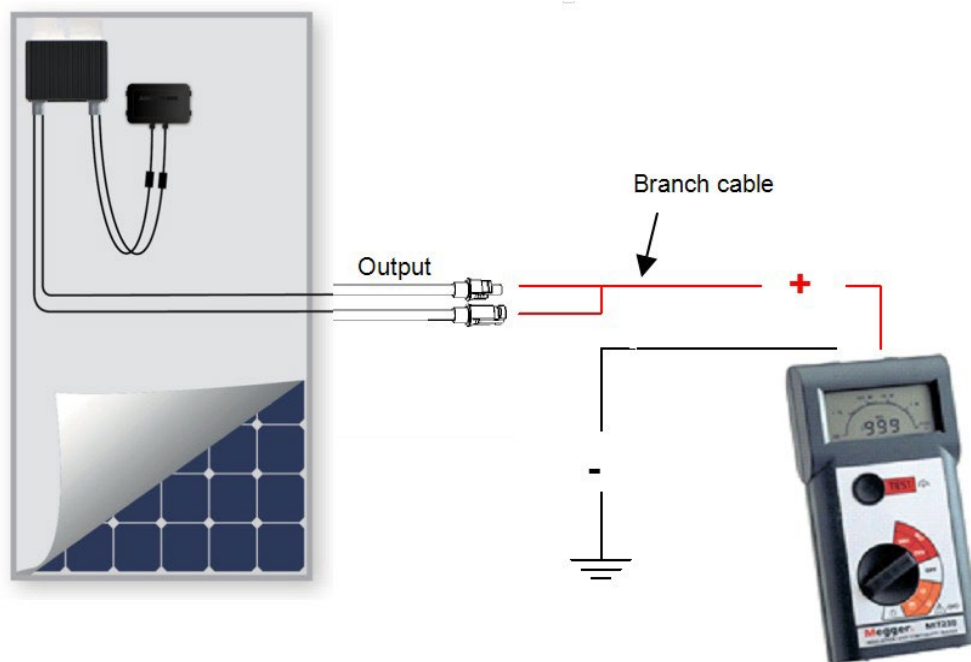

Figure 6: Connecting the Insulation Tester to the Power Optimizer and Module
7. Test the Power Optimizers' and modules' resistance using the insulation tester (see Figure 6 below):